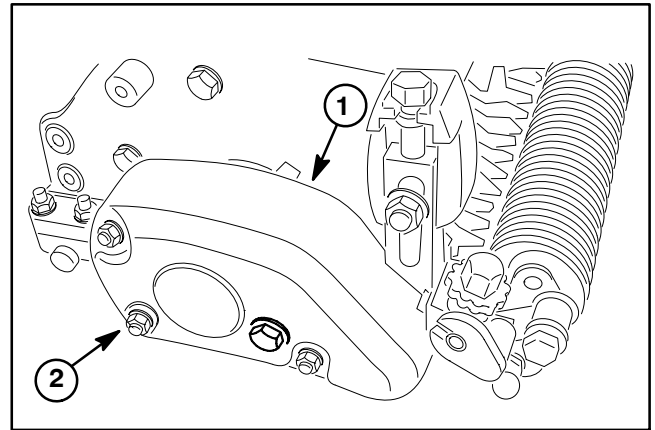

Figure 3
4. Remove three (3) lock nuts that secure groomer drive cover, then remove cover (Fig. 3).
7. Secure belt cover to machine with three (3) lock nuts (Fig. 3).